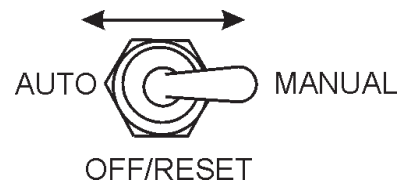

Figure 44. MPEC Control Switch (Manual Position)
- Once the engine glow plugs have been warmed, place the **MPEC Control Switch** in the **MANUAL** position to start the engine (Figure 44).